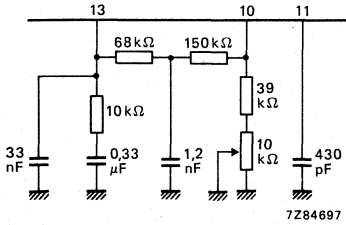

Fig. 2 PLL-filter for  $\alpha_2 = 70$  dB at  $V_p = 15$  V (see also Fig. 1).
3. PLL-filter for reduced intermodulation ( $\alpha_2$ ); see Fig. 2.